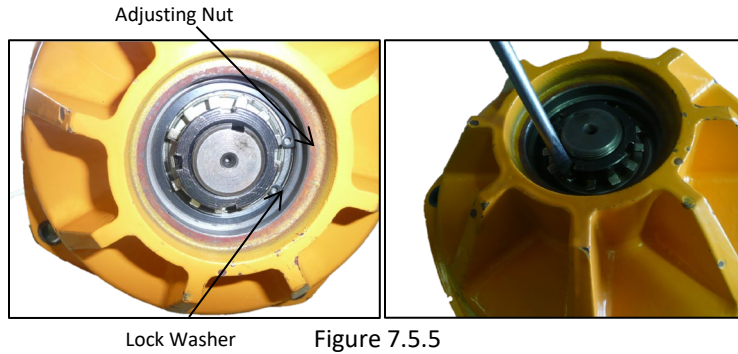

Figure 7.5.5
2. Bend the tab of the lock washer away from the adjusting nut so that the adjusting nut can be rotated (see Figure 7.5.5).
4. Bend the tab of the lock washer away from the adjusting nut so that the adjusting nut can be rotated (see Figure 7.5.5).